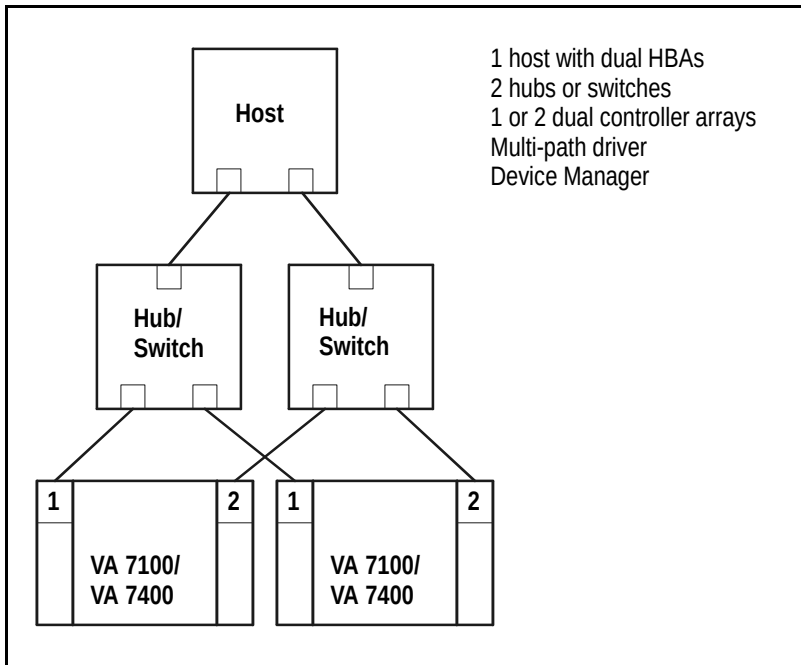

Figure 15 Mid-Range Non-Clustered with Full Storage Path Redundancy
- Mid-range non-clustered with full storage path redundancy (see Figure 15)